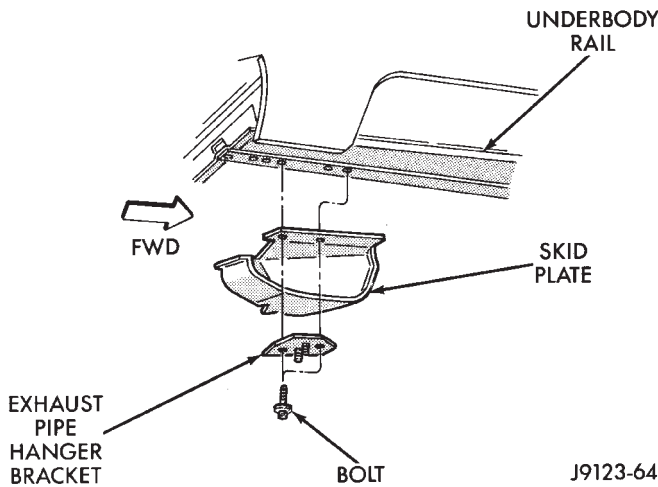

Fig. 3 Fuel Tank Skid Plate W/O Trailer Hitch Or Tow Hook
- (1) Position a support under skid plate.
- (2) Remove the bolts that attach skid plate to underbody side rails (Figs. 3 and 4).